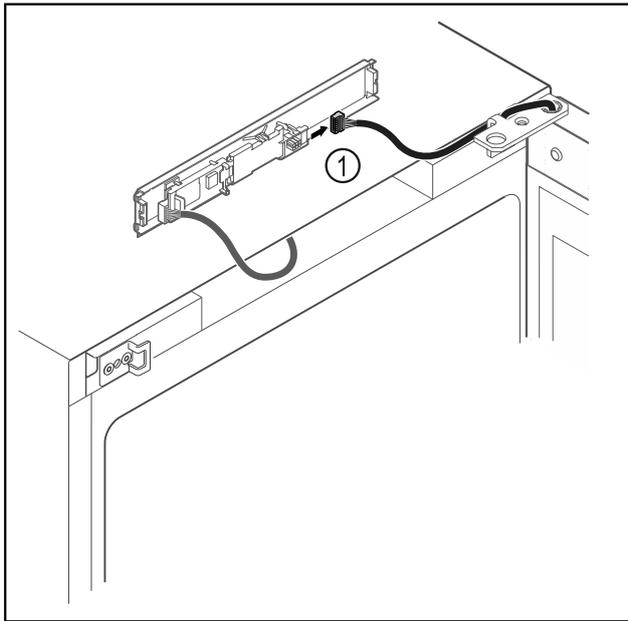

Fig. 8
- ▶ Disconnect the plug Fig. 8 (1) from the circuit board.